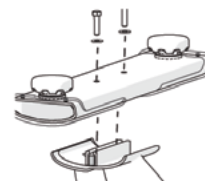

Figure 2
3. Attach the rear stabilizer to the frame using two bolts 1 and two flat washers 2 (Figure 2). Using a hex key 5, tighten to 15.6ft-lb (21.2 N-m).